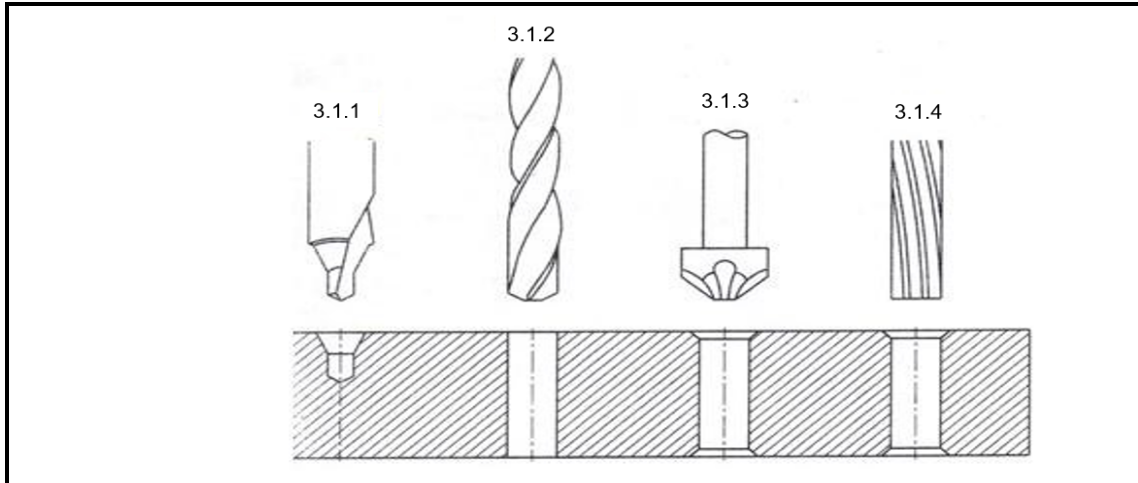

FIGURE 2
3.1 Four operations that can be done on a drilling machine are indicated in FIGURE 2 below.